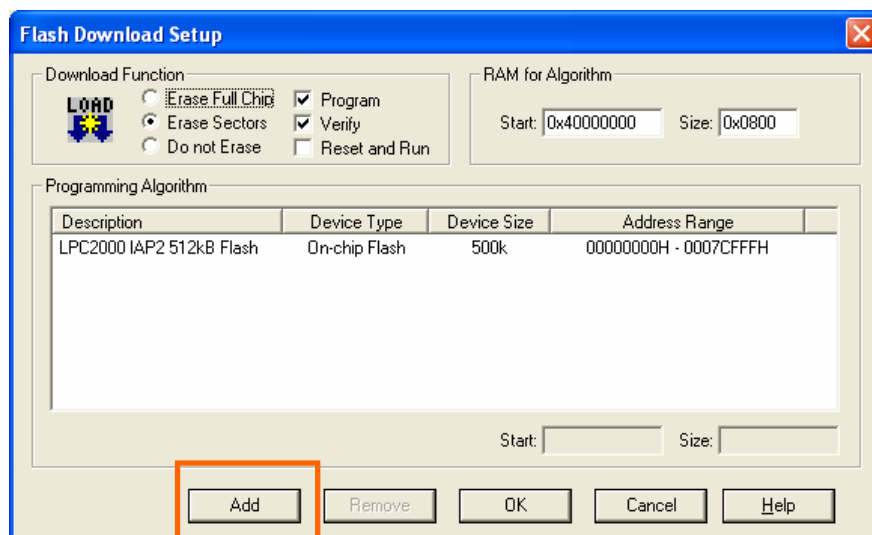

Figure 2-11. µVision3 Flash Download Settings
3. Press OK in the settings dialog and switch to the “Utilities” tab. Select the “Use Target Driver for Flash Programming” radio button and select “ULINK ARM Debugger” in the drop-down menu. Press the “Settings” button. A dialog should appear, as shown in Figure 2-11. Add the appropriate flash loader (as has already been done in Figure 2-11) by selecting the “Add” button and choosing “LPC2000 IAP2 512kB Flash” in the list. This flash loader will then appear in the list box in the “Flash Download Setup” dialog.